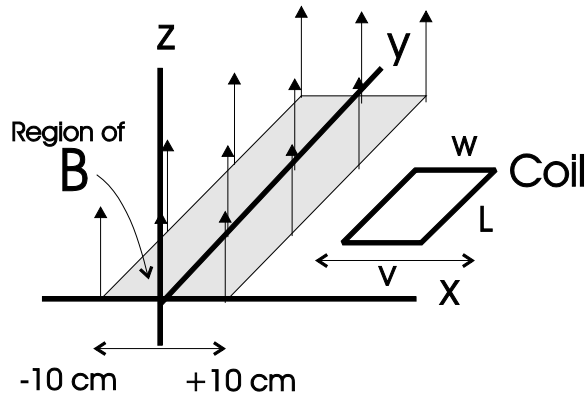

Figure 2: Coil moving through a magnetic field.
Consider a uniform magnetic field that points in the $+z$ direction and is confined to the region of space between $x = \pm 10$ cm as shown in Figure 2. The field is zero outside this region. This field might, for instance, be produced by a flat magnet indicated as a shaded region in Fig. 2. If a rectangular coil of wire of width W and length L , oriented as shown in the figure, is moved back and forth in the $\pm x$ -direction with speed v , you might make the following six predictions, based on Faraday’s and Lenz’s Laws.
- v. Lenz's law can be used to predict the direction of the induced current. For example, if the coil is positioned as shown in Fig. 2 and is moving to the left, the induced EMF will be clockwise when viewed from above. This is because the flux is increasing as the loop enters the field region, with \vec{B} pointing up. To counteract this, the induced EMF must have a direction that produces a downward-pointing \vec{B} field, a clockwise EMF (*using the right hand rule*).
- i. Set the rectangular coil about 40 cm away from the magnet. The coil should be oriented as shown in Fig. 2, with its long side parallel to the long side of the magnet. Start a scan but leave the coil alone for about 5 seconds so that you get an idea of the amount of noise in the system. Then slide the coil right and left a few cm. Record on the worksheet the maximum magnitude of any induced emf you observe. (You may use the software's ANALYSIS / STATISTICS feature to read this value.) Did you see any significant induced voltage (significant compared to the EMF when you moved the coil onto or off the magnet)? Probably not. This is because the coil remains in a region where there is little (but NOT zero) magnetic field; hence the magnetic flux never changed much and there was relatively little induced EMF.